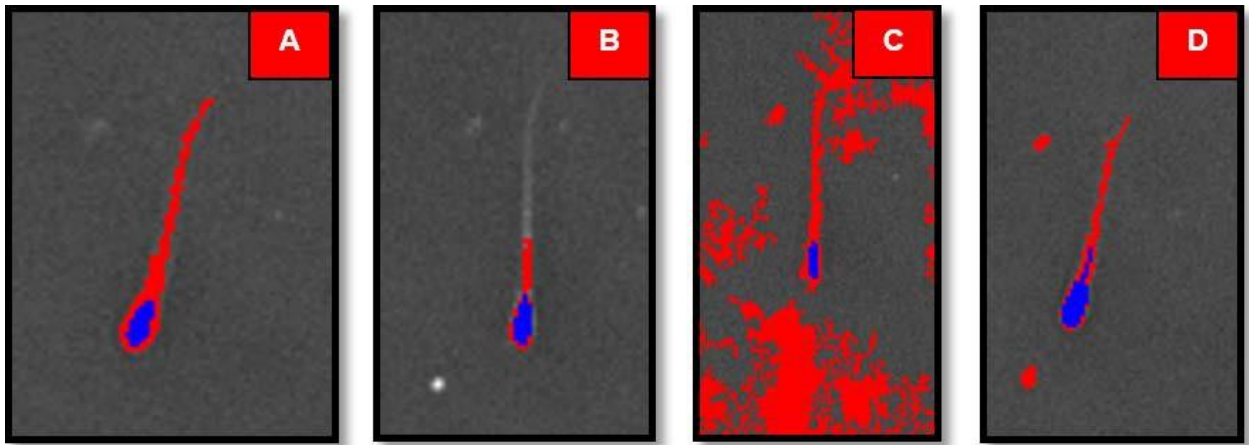

Figure 6-2: Image Examples of Minimum Tail and Head Brightness Settings
5. It is essential to set the **MTB** just above the setting where red patches appear on the background image. The red should be almost entirely confined to the sperm tails and the ring of fainter pixels around the blue sperm head. See Figure 6-2 for examples of correct and incorrect settings of **MTB**.
5. Fine-tune this value so that the blue color illuminates the head but does not progress down the midpiece or tail. See Figure 6-2 for examples of correct and incorrect settings of **MHB**.
- Figure 6-2 (A): **Correct settings** - both **MTB** and **MHB** are properly set
- Figure 6-2 (B): **High Minimum Tail Brightness** - **MTB** is too high so tail is only partially detected
- Figure 6-2 (C): **Low Minimum Tail Brightness** - **MTB** is too low so many pixels in background are being detected
- Figure 6-2 (D): **Low Minimum Head Brightness** - **MHB** is too low so blue color travels down tail. **MTB** is correct on this image.